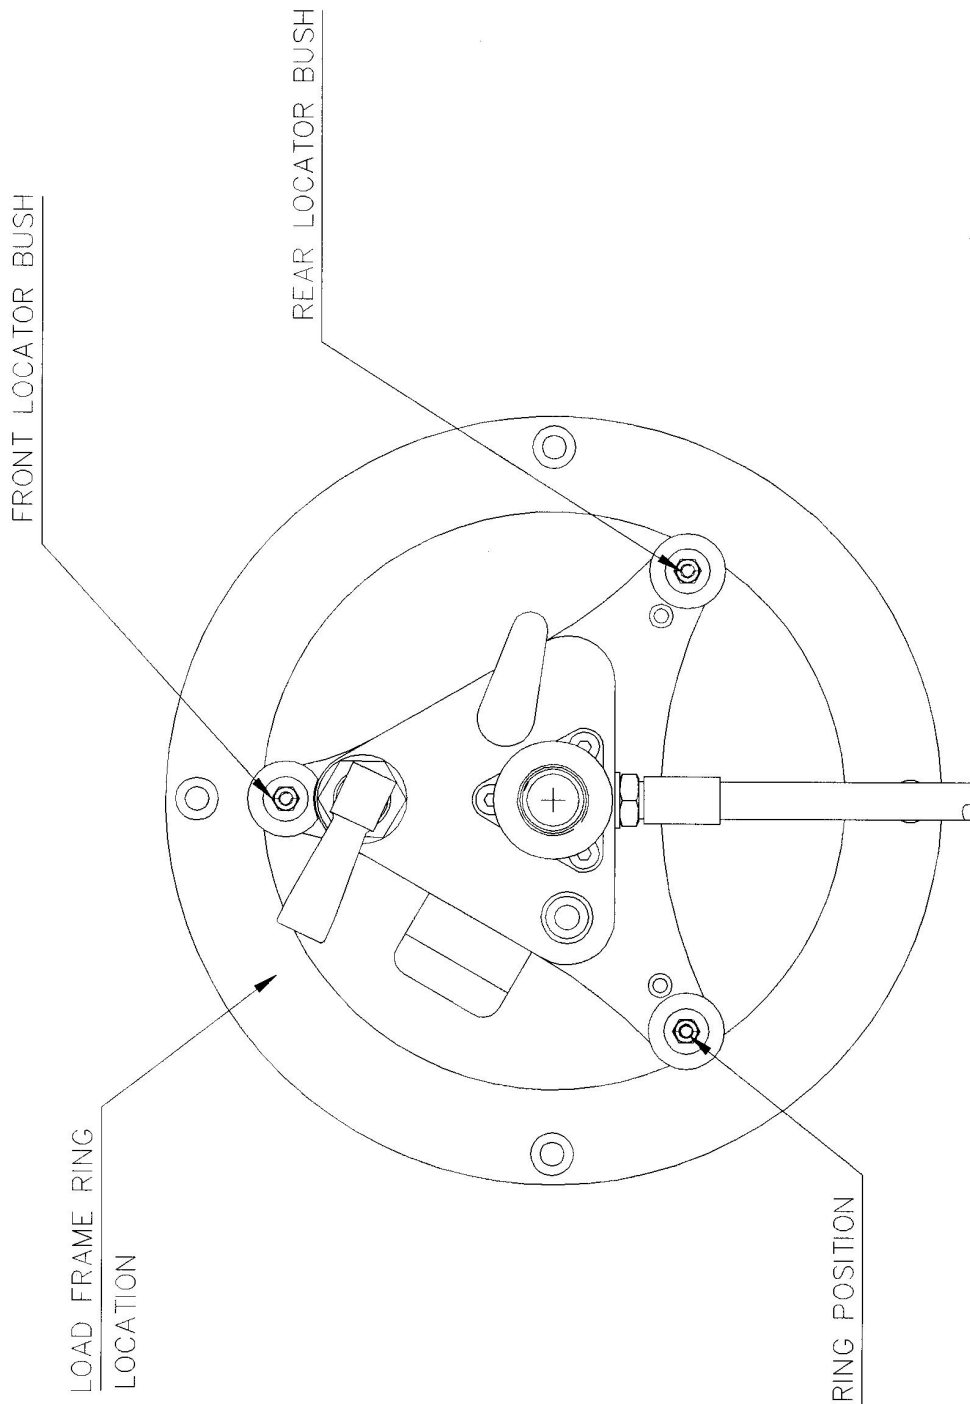

FIG SB2-003 ARRANGEMENT OF LOCATOR BUSHES
8. Assemble the remaining horizontal locator bush (7) in the same manner, using the M6 x 45 mm bolt (9) and tighten into the position shown in Figure SB2-003.
10. Assemble the remaining 6 mm internal diameter horizontal bearing (4) with an M6 washer (5) on both sides with the last M6 x 45 length bolt (9) and the 32 mm diameter washer (6) on the lower side, as shown in SB2-004. Tighten the M6 nut securely.